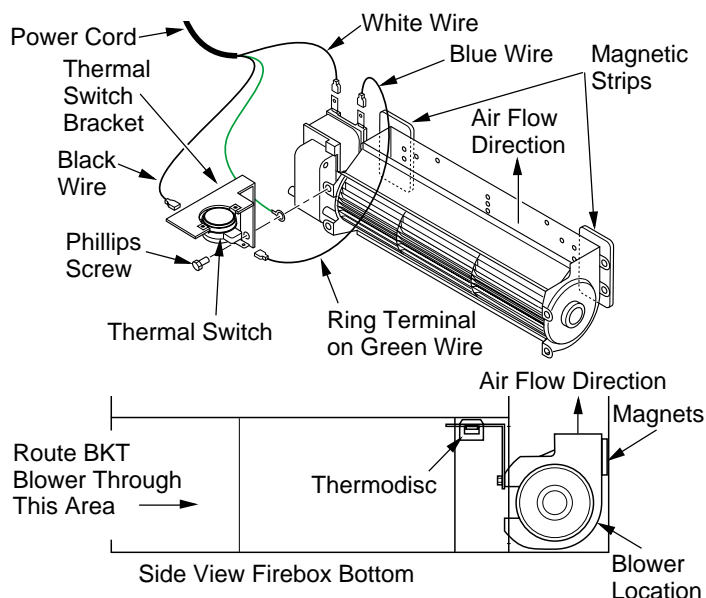

Figure 28 - Blower Model BKT
1. Place the green ground wire with ring terminal between the bottom hole on the thermal switch bracket and the top ear hole on the blower assembly. Insert the phillips screw into all three pieces and tighten securely (see Figure 28).
3. Place the blower against the lower rear wall of the firebox outer wrapper with the exhaust port directed upward and the thermodisc positioned up near the fireplace bottom. The thermodisc must be oriented near the fireplace bottom as shown in Figure 28 in order to sense temperature and properly operate. The blower will be held in position against the back wall by the magnets incorporated onto the blower housing (see Figure 28).